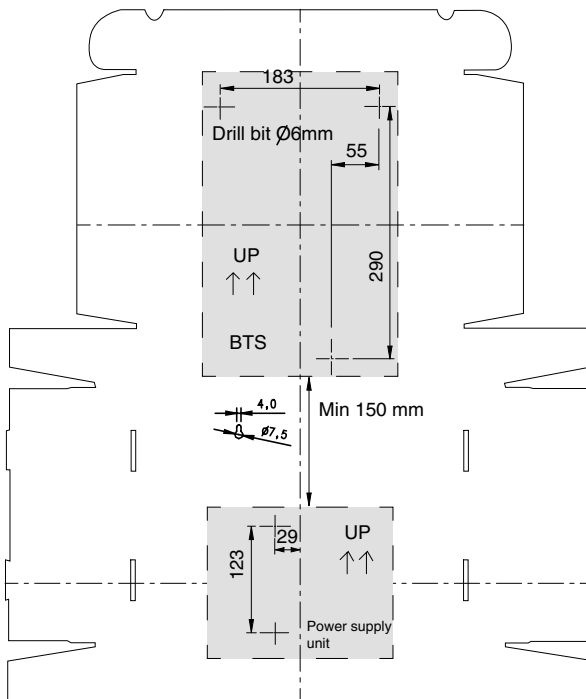

Figure 10. Template for marking the fixing points (inside the BTS packing cardboard)
Use the template that is inside the BTS packing cardboard. Use a spirit level to make sure that the template is horizontal before marking the fixing points. See Figure 10.
2. Repeat the above step for the power supply unit. The markings for the power supply unit holes are also on the BTS packing cardboard template. See Figure 10.